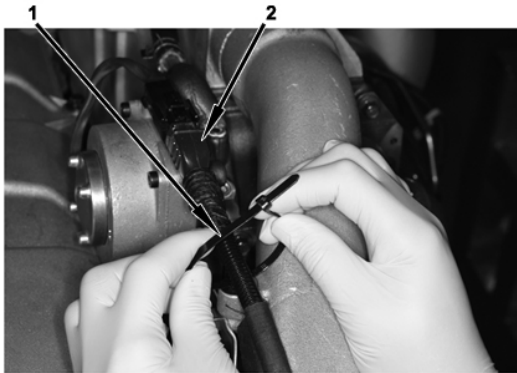

Figure 43 EGR Valve Electrical Connector
20. Install wire tie (1) located before the EGR valve electrical connector (2) (Figure 43).